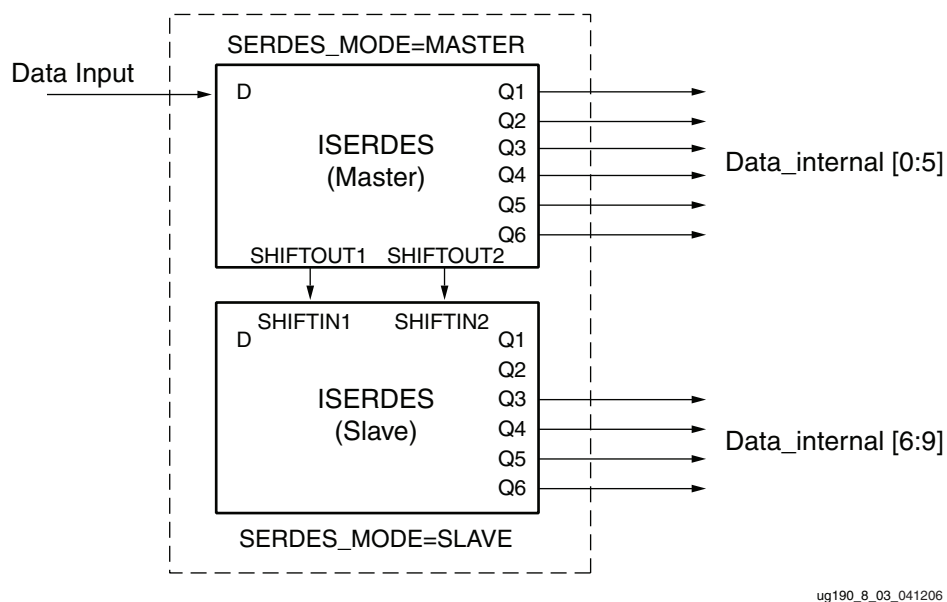

Figure 8-3: Block Diagram of ISERDES Width Expansion
Figure 8-3 illustrates a block diagram of a 1:10 DDR serial-to-parallel converter using the master and slave ISERDES modules. Ports Q3 - Q6 are used for the last four bits of the parallel interface on the slave ISERDES.
5. DATA_WIDTH applies to both MASTER and SLAVE in Figure 8-3.